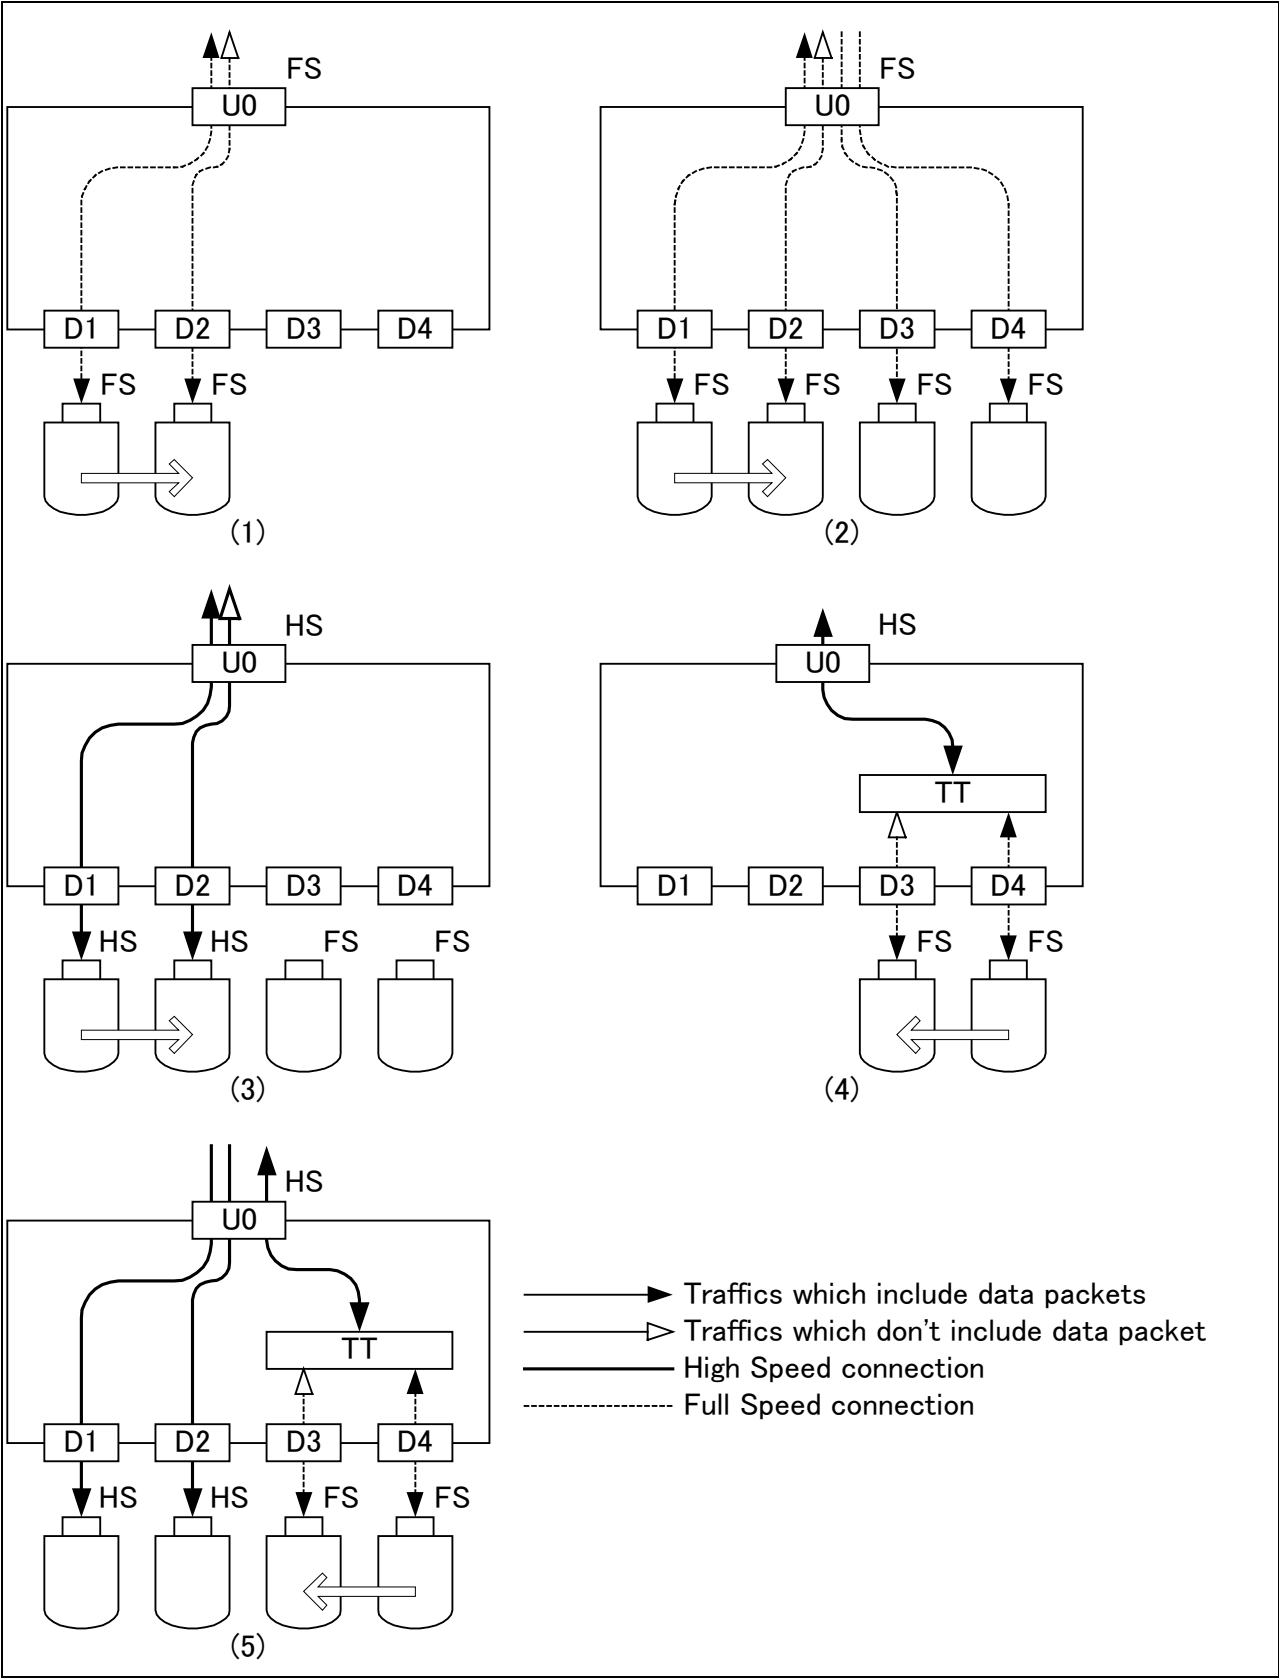

Figure 8-1
*C1 Copy files from D1 to D2. 86.2% bus domination on U0. 1.0MB/s transfer rate. (Figure 8-1(1))
*C2 Copy files from D1 to D2. 85.4% bus domination on U0. 1.0MB/s transfer rate. (Figure 8-1(2))
*C3 Copy files from D1 to D2. 25.5% bus domination on U0. 12.7MB/s transfer rate. (Figure 8-1(3))
*C4 Copy files from D4 to D3. 8.1% bus domination on U0. 1.0MB/s transfer rate. (Figure 8-1(4))
*C5 Copy files from D4 to D3. 6.38% bus domination on U0. 1.0MB/s transfer rate. (Figure 8-1(5))